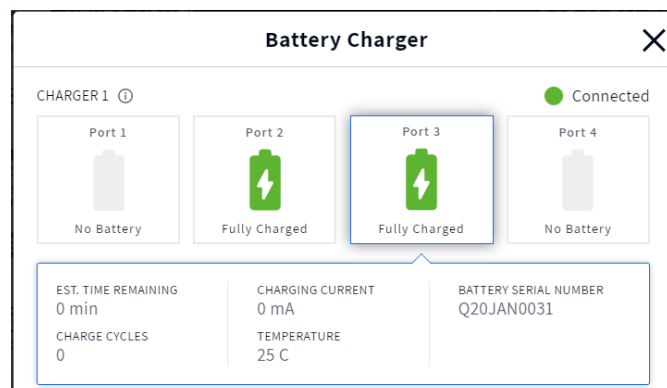

Fig. 5.3
**Note:** The AC70 requires close physical proximity (<10 ft (3 m)) to the base station if you desire to monitor battery status via the base station HOME screen. When within range, the Chargers indicator on the HOME screen changes from  to  (gray to green). Once green, tap **Chargers** to view battery status, see Fig. 5.3.